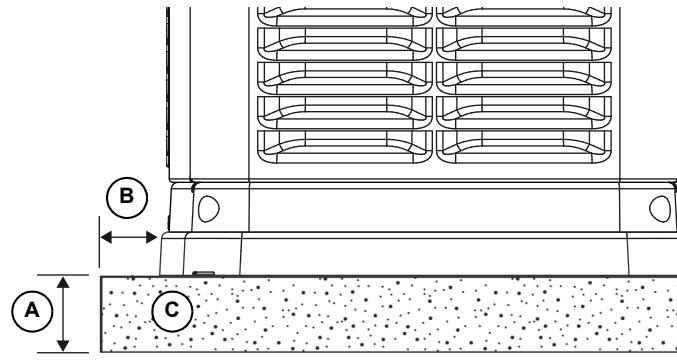

Figure 3-3. Compacted Gravel Pad
- See **Figure 3-3**. Dig a rectangular area approximately 5 in (127 mm) deep [A] and about 6 in (152 mm) longer and wider [B] than the footprint of the generator. Fill with 4 in (102 mm) of pea gravel [C], crushed stone or any other non-combustible material sufficient for level installation. Compact and level the material. A concrete pad can be poured if desired or required. The pad should be 4–5 in (102–127 mm) thick and extend 6 in (152 mm) beyond the outside of the generator in all directions.